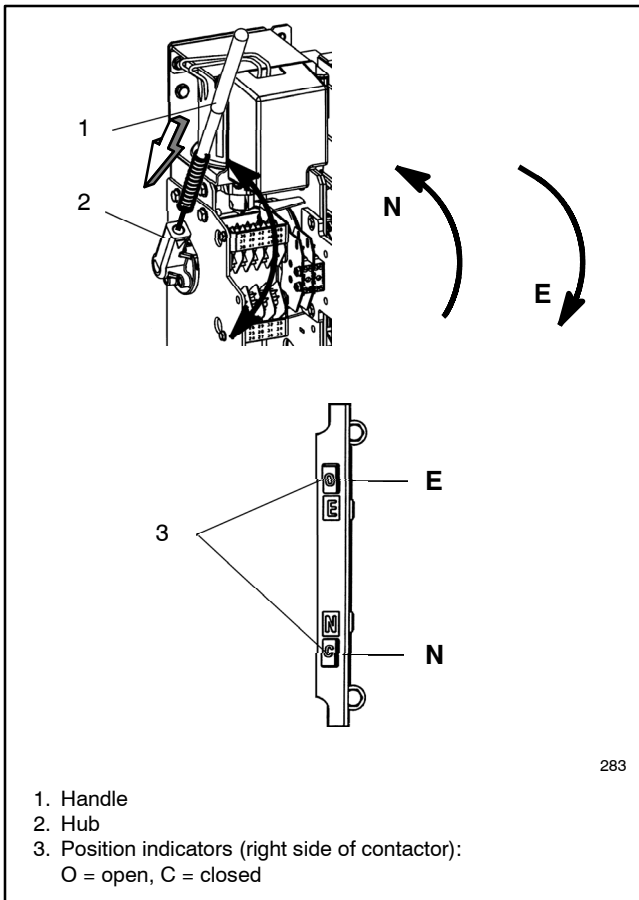

Figure 2-5 Manual Operation, 260- 600 Amp Model KCS
3. **230-600 amp switches:** See Figure 2-5. Insert the maintenance handle into the hole in the shaft on the left side of the operator.